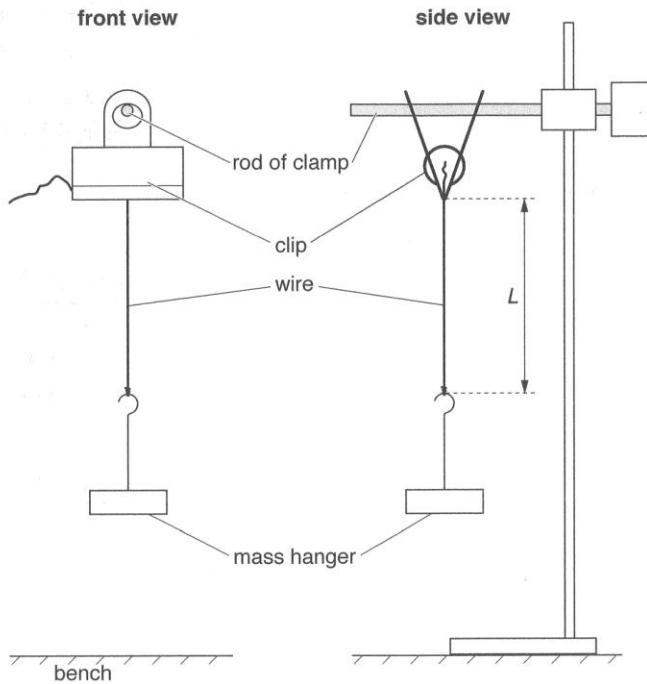

Fig. 2.1
- (ii) Set up the apparatus as shown in Fig. 2.1.